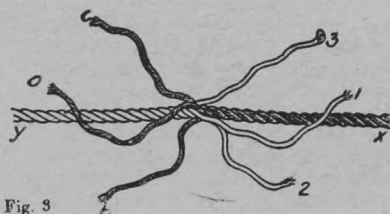
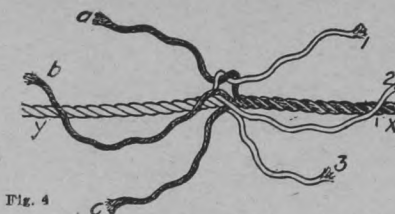

Fig. 3
Fig. 4
Fig. 4 shows how the stitching is done, with the two ends of strap held in place by the clamp. After marking, with a spacer or a ruler, the holes are punched with the awl, puncturing from the smooth side toward the flesh side. The stitching is done by passing both
If there is a straight pull and the rope doesn't have to pass through a pulley, a short splice will do. The steps in making this splice are shown in (figs. 3, 4, 5 and 6). The two ends are unwound and then locked together so that those from one end pass alternately between those from the other end. Taking two strands from opposite sides, (a) and (1), (fig. 3) tie a simple knot (fig. 4). Repeat with (b) and (2) and with (c) and (3). Draw the knots tightly, then passing each strand of the rope diagonally to the left, tuck the ends under the strands of rope (y). Then turn the rope end for end and repeat by splicing down the strands of rope (y) (fig. 5). When the splice is completed each strand from both ropes should be spliced under at least two places, depending on the size of the rope and the strain it has to carry. The splice can be made, of course, without